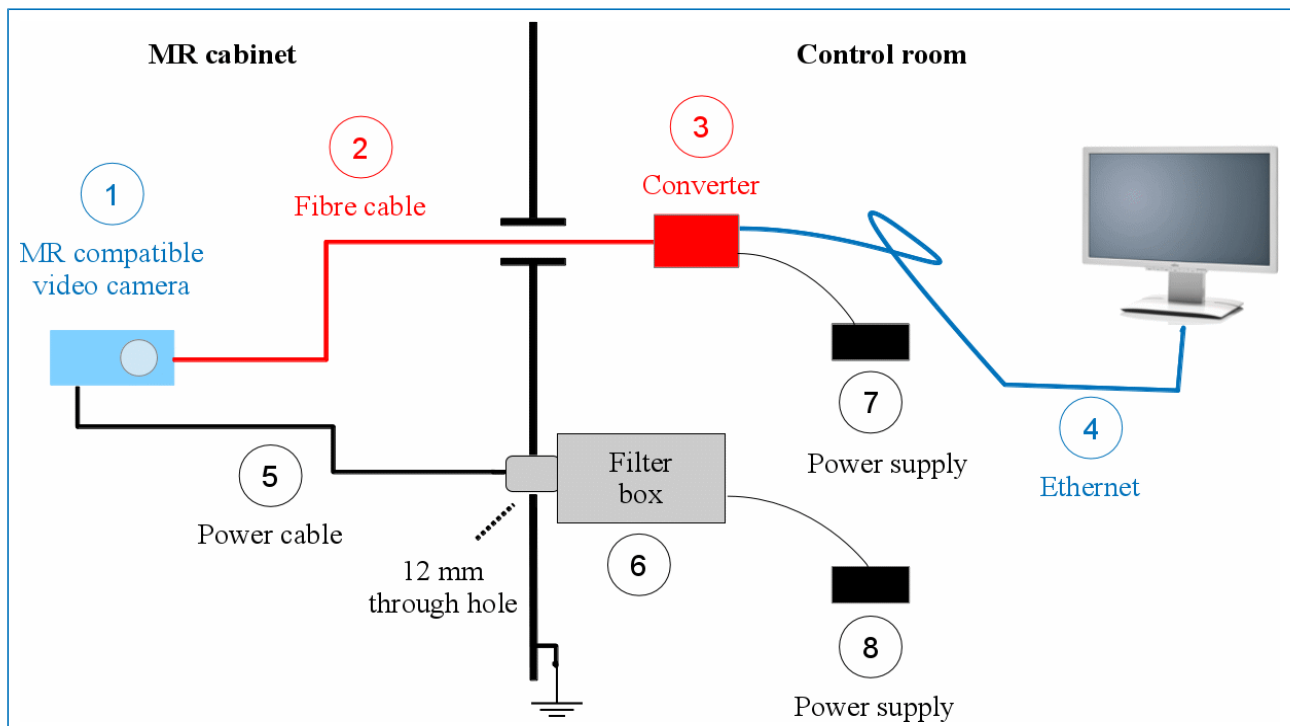

Figure 3: Overview of equipment in MR cabinet and control room
The installation of the camera system is rather easy. Figure 3 illustrates a typical arrangement. The video signals are transferred via an optical fibre (2), and the camera is powered via a specially shielded electronic cable (5). A signal converter (3) converts the optical signal to the Gigabit Ethernet protocol which is then physically available in a standard Ethernet cable (1000BaseT) (4).
For a permanent installation, the filter box should be screwed onto the panel board by means of the feed through **power connector** (see figure 4). Figure 3 illustrates the recommended configuration: